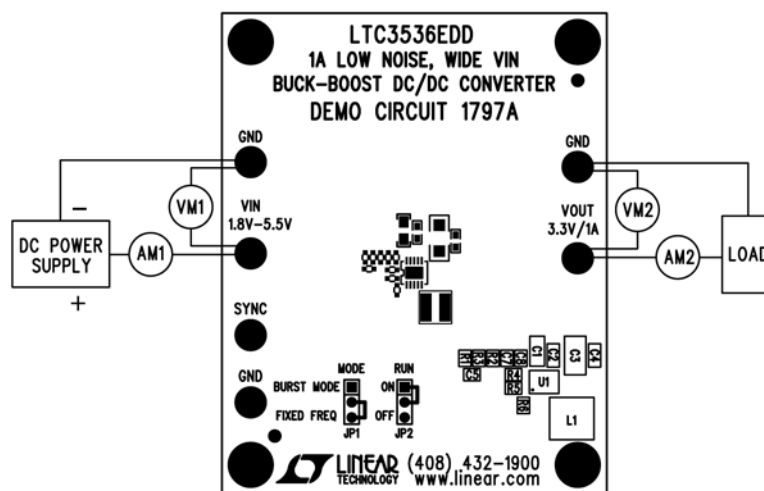

Figure 1. Proper Measurement Equipment Setup
Demonstration circuit 1797A is easy to set up to evaluate the performance of the LTC3536. For proper measurement equipment configuration, set up the circuit according to the diagram in Figure 1. Before proceeding to test, insert shunts into JP1 fixed frequency and JP2 off positions, which connects the RUN pin to ground (GND), and thus, shutdown the circuit.
1. With the DC1797 set up according to the proper measurement and equipment in Figure 1, apply 5V at V_{IN} . Measure V_{OUT} ; it should read 0V. If desired, one can measure the shutdown supply current at this point. The supply current will be approximately $3\mu A$, or less, in shutdown.